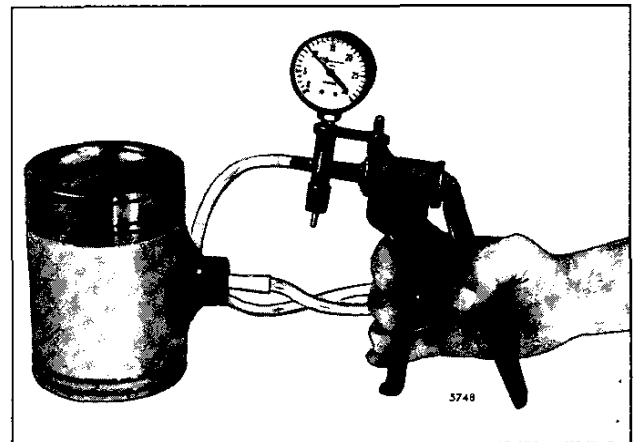

Fig. 9 – Checking Piston Pin Retainer for Proper Sealing Using Tool J 23987-01
6. One important function of the piston pin retainer is to prevent the oil, which cools the underside of the piston and lubricates the piston pin bushings, from reaching the cylinder walls. Check each retainer for proper sealing with leak detector J 23987-01 (Fig. 9). Place the suction cup over the retainer and hand operate the lever to pull a vacuum of ten inches on the gage. A drop in the gage reading indicates air leakage at the retainer.